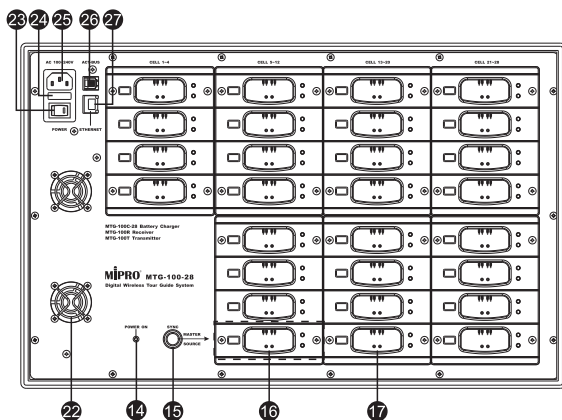

Fig. 18
- (A) E-5S: Single-sided Earphone with 3.5 Ø mini-jack plug
- (B) E-10S: Stereo Earphones with 3.5 Ø mini-jack plug
- (C) E-20S: Stereo Headphones with 3.5 Ø mini-jack plug.
3. MTG-100C-28 28-Slot Charger and Storage Case, Fig. 18: